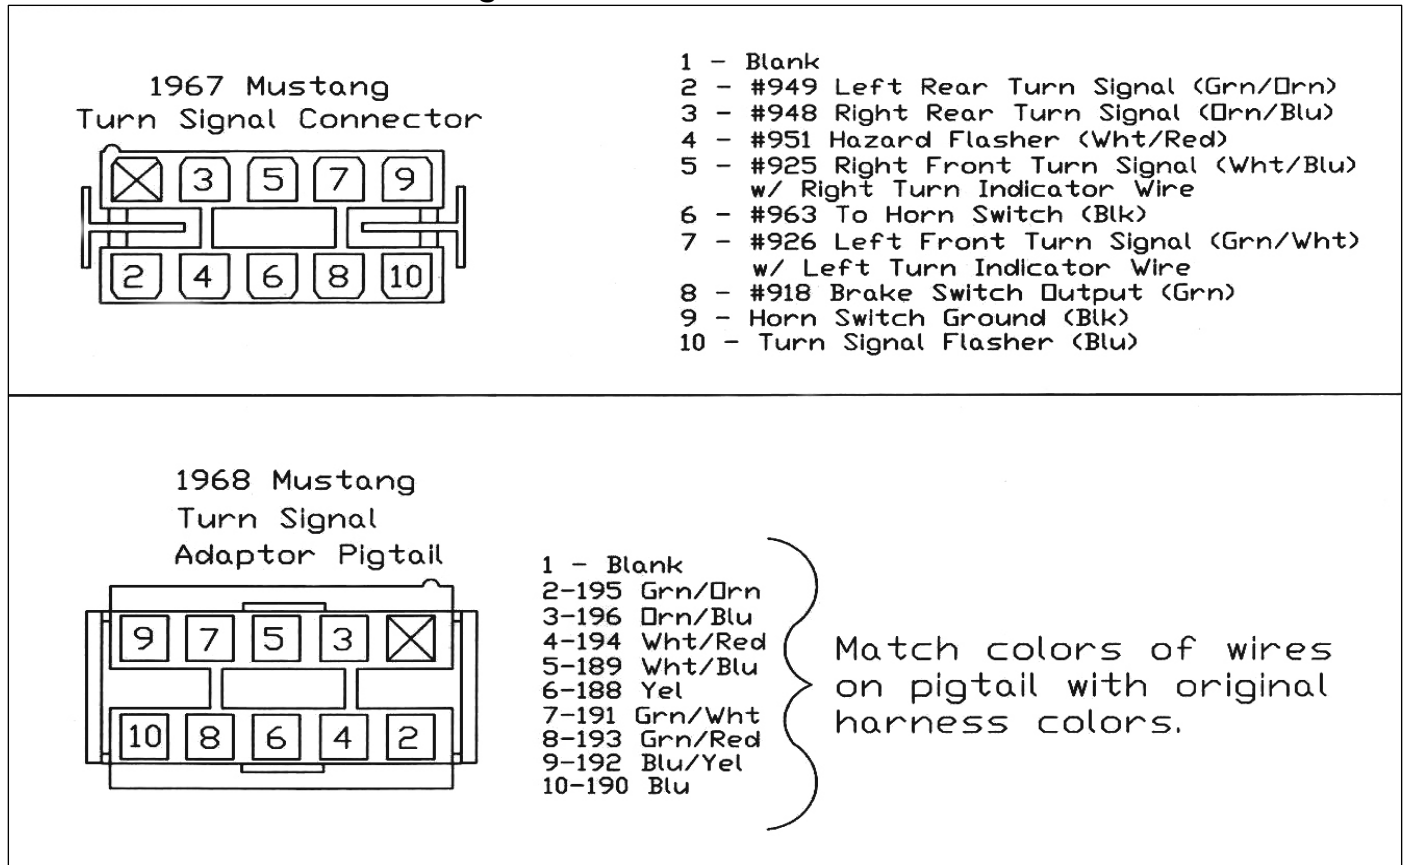

Figure 7-12 Turn Signal Connectors
- 7.6.1** If wiring a 1967 Mustang the original Turn Signal Switch Connector will plug directly into the new Painless harness. The only additional connection to be made is to attach the pre-terminated Horn Switch Ground. **See Figure 7-12.**
- 7.6.2** If wiring a 1968 Mustang the original Turn Signal Switch Connector from the old harness will need to be re-used. Carefully remove the original wires, **ONE WIRE AT A TIME, replacing them with the new wires in the 1968 Mustang Turn Signal Adaptor Pigtail. The pigtail colors match the original colors in the old harness.** Use small pair of needle nose pliers or a flat screwdriver to remove the original terminals from the connector cavities. **See Figure 7-12.**